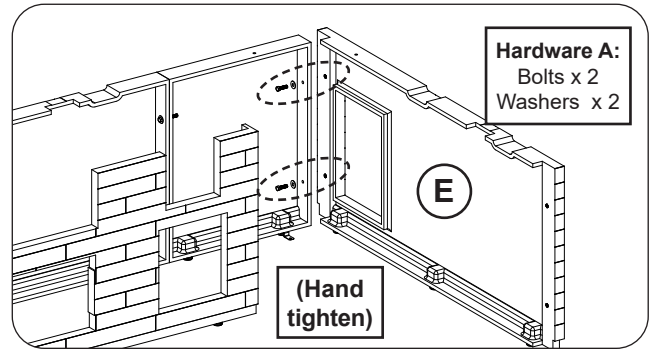

Fig. 12-1 Assemble side wall
Orient the side wall (E) and repeat the hardware installation process (hardware kit A). Hand tighten only. See Fig. 12-1.